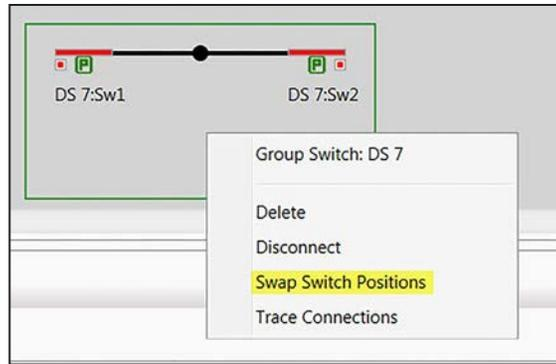

Figure 56. Swapping switch positions on a two-switch device.
**Note:** To swap the switch positions on a two-switch device, right click on the pad-mount drawing and select the **Swap Switch Positions** command, as shown in Figure 56 on page 69.
Use the Repeat Insert and Toggle Switch Open/Close tools to set the normally open points, as shown in Figure 56.